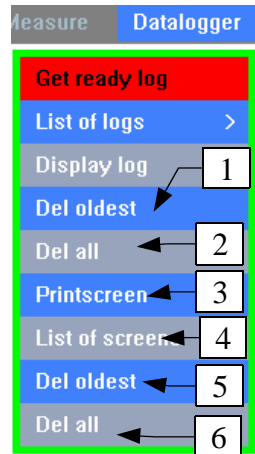

Figure 4.61
If you want to delete some records from your TSPRO's memory you have two options: you can either delete some of them by selecting Datalogger -> Delete log (1) or delete all of them by pressing Datalogger -> Delete all (2) (Fig. 4.61)
You can activate this function using either by pressing Datalogger - Printscreen (Figure 4.61 - 3), or you can press the F1 key or the button next to it on the screen until a SCREEN icon appears next to the F4 key (Figure 4.62) - then a picture of the screen is saved every time you press the F4 key or the button next to it on the screen.
If you want to delete saved pictures you have two opinions: you can either delete all of them by pressing Datalogger - Delete all (6) in the menu bar, or if you want to delete only one, press Datalogger - delete screen (5) (Figure 4.61).